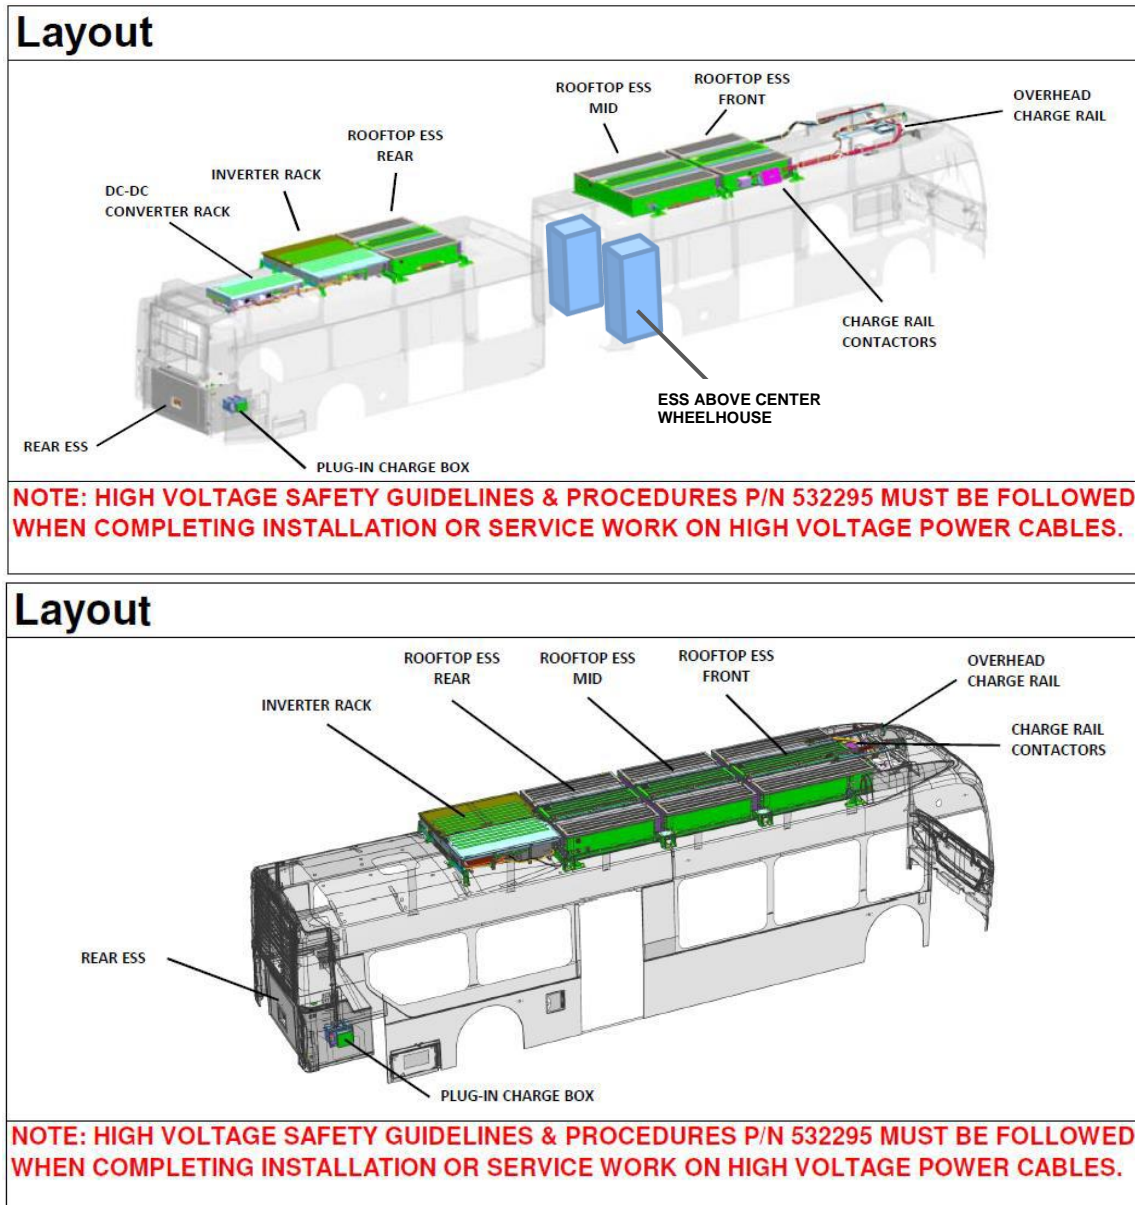

Figure 3: Battery pack string location reference
1.9 Identify the location(s) of the ESS compartments that will require work. See Figure 3. (Refer to your wiring schematic or schematics often located on the underside of the ESS enclosure lids)